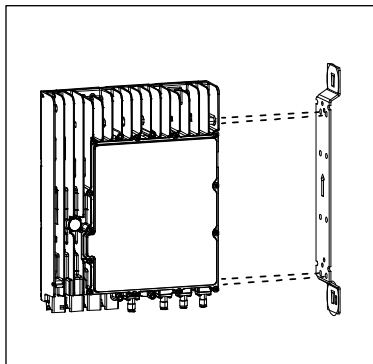

Figure 13
1. Attach the AirScale radios to the brackets, observing the UP arrow on the brackets (Figure 13).